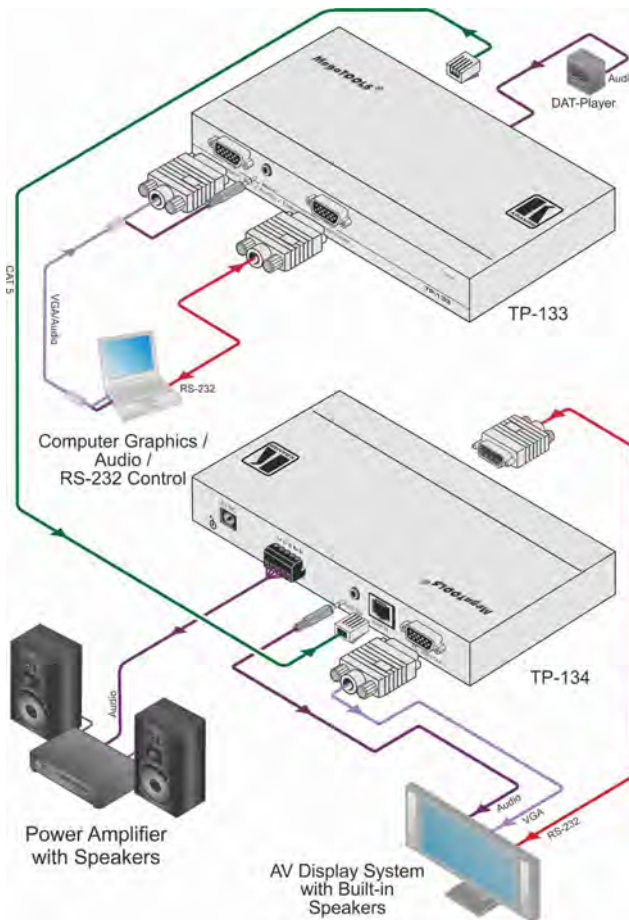

Figure 3: Connecting the TP-133/TP-134 PC/Audio/Data Line Transmitter/Receiver System
To connect the TP-133 and the TP-134 to create a TP transmitter and receiver system as illustrated in Figure 3:
- A computer graphics video source (for example, the graphics card on a laptop) to the PC IN 15-pin HD connector (M)
- The RS-232 device, for example, PC or controller with an RS-232 interface to the RS-232 9-pin D-sub connector (F)
- If needed, connect a computer monitor and audio amplifier/loudspeakers to the looping VGA/audio outputs (not shown in Figure 3)
- PC VIDEO OUT 15-pin HD (F) connector to the video acceptor (for example, an AV display system)
- RS-232 9-pin D-sub connector (M) to the controlled device with an RS-232 interface
4. Connect the power adapters to the power sockets on the **TP-133** and **TP-134**, and connect the adapters to the mains electricity (not shown in Figure 3).